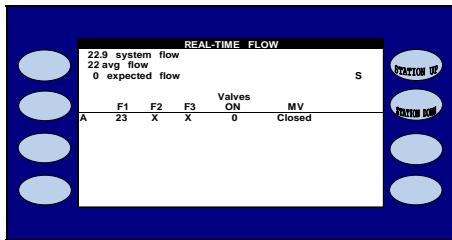

Figure 6.16
4.  Press the **CLEAR** Menu key to clear the highlighted station (Figure 6.16).
The REAL-TIME FLOW screen is displayed (Figure 6.16)